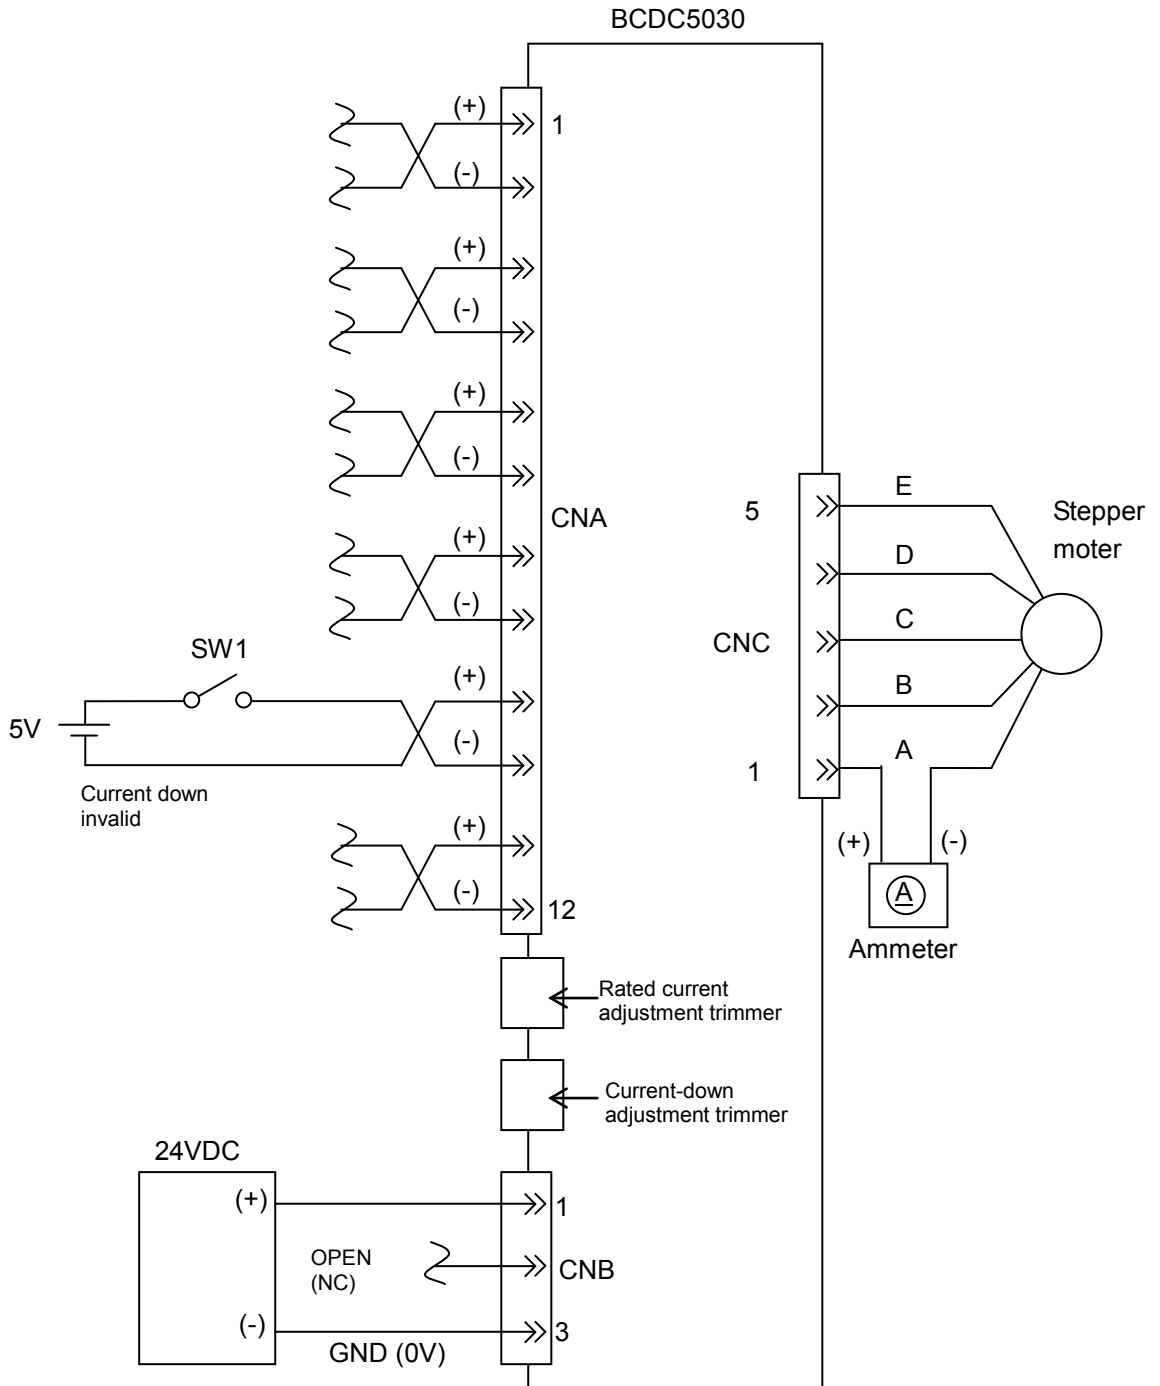

Figure 4
- (1) Turn ON SW1 and make Auto current down invalid by photocoupler ON. (Refer to Figure 4.)
- (2) Set other input signal pins open. (Signal is not input.)
- (3) Connect an ammeter with caution to polar character. (Use an ammeter that its full scale is more than 3A.)
- (4) Turn DC24V Power Supply ON.
- (5) Set the current using adjustment trimmers (Single rotation) (at your left side).
- (6) Rotating the trimmer in CW direction increases the current value and rotating it in CCW direction decreases the current value.
- (7) Current for two phases flows in the ammeter. Therefore, half of the current value is rated current for one phase. An ammeter shows the setting value is 0.1A lower than the control current value in the driver. Therefore, set current value with deleting 0.1A.
- (2) Turn DC24V Power Supply ON.
- (3) Set the current using the trimmer (at your right side).
- (4) Rotating the trimmer in CW direction increases the current value and rotating it in CCW direction decreases the current value.
- (5) In default, the trimmer is set to 50% value of the current value (for two phases).
- (6) The following is an example to show a relation between the trimmer scale and the setting current. Please refer to the following table.